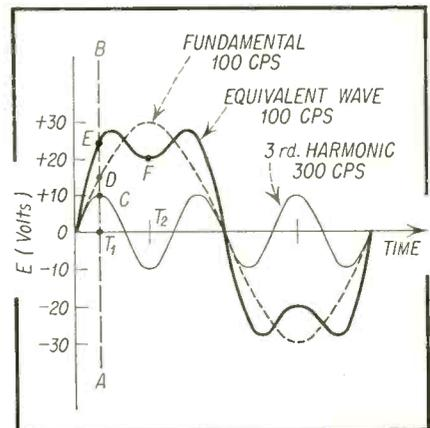
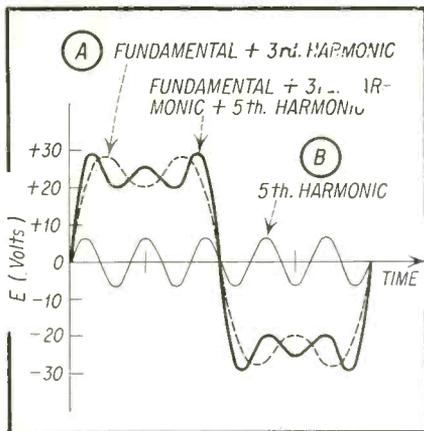
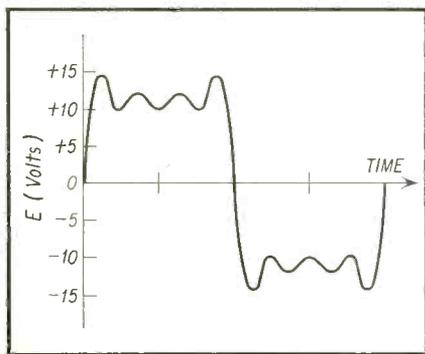

Fig. 2—Combination of fundamental and 3rd harmonic as the first step in the synthesis of the square wave.
Fig. 3 — Closer approach to truer square wave is observed as additional harmonics are added.
Fig. 4—Equivalent voltage obtained when 3rd, 5th, and 7th harmonics are combined with the fundamental.
d) And so on down the line for the 7th, 9th, 11th, etc., etc., harmonics. To further clarify this concept, suppose we examine what happens when we combine these harmonics graphically. In Fig. 2, the dashed line represents the fundamental of 100 cps, and the light line represents the 3rd harmonic, the amplitude of which you will notice is 1/3 the amplitude of the fundamental. To find the curve of voltage which is the equivalent of these two acting simultaneously, the following procedure is used.
4. Combining these two gives a resultant voltage of +25 volts. Thus, at the time selected, the equivalent voltage is +25. This locates point E, on the  $t_1$  line and 25 volts above the axis. A similar procedure would show that at  $t_2$  the contributing voltages are +30 from the fundamental and -10 from the 3rd harmonic, giving a resultant of +20, as indicated by F of Fig. 2.
In Fig. 3, the dotted line is simply a repetition of the solid line curve of Fig. 2, and represents, as noted previously, the combination of a fundamental and a third harmonic with 1/3 the amplitude of the fundamental. Of course this is a far cry from a square wave, but it is certainly closer to a square wave than fundamental sine wave we started with. Its sides are steeper, and in spite of the dip at the center, the top is beginning to flatten out.
The light solid line in Fig. 3 represents the fifth harmonic of the fundamental, with an amplitude one fifth that of the fundamental. Without repeating the details, curves A and B in this figure may be combined by the same procedure previously outlined for the combination of the fundamental and 3rd harmonic. The result would be the curve shown by the heavy solid line of Fig. 3. When the 7th harmonic is added to this, Fig. 4 results. Comparing Figs. 2, 3, and 4 indicates that: